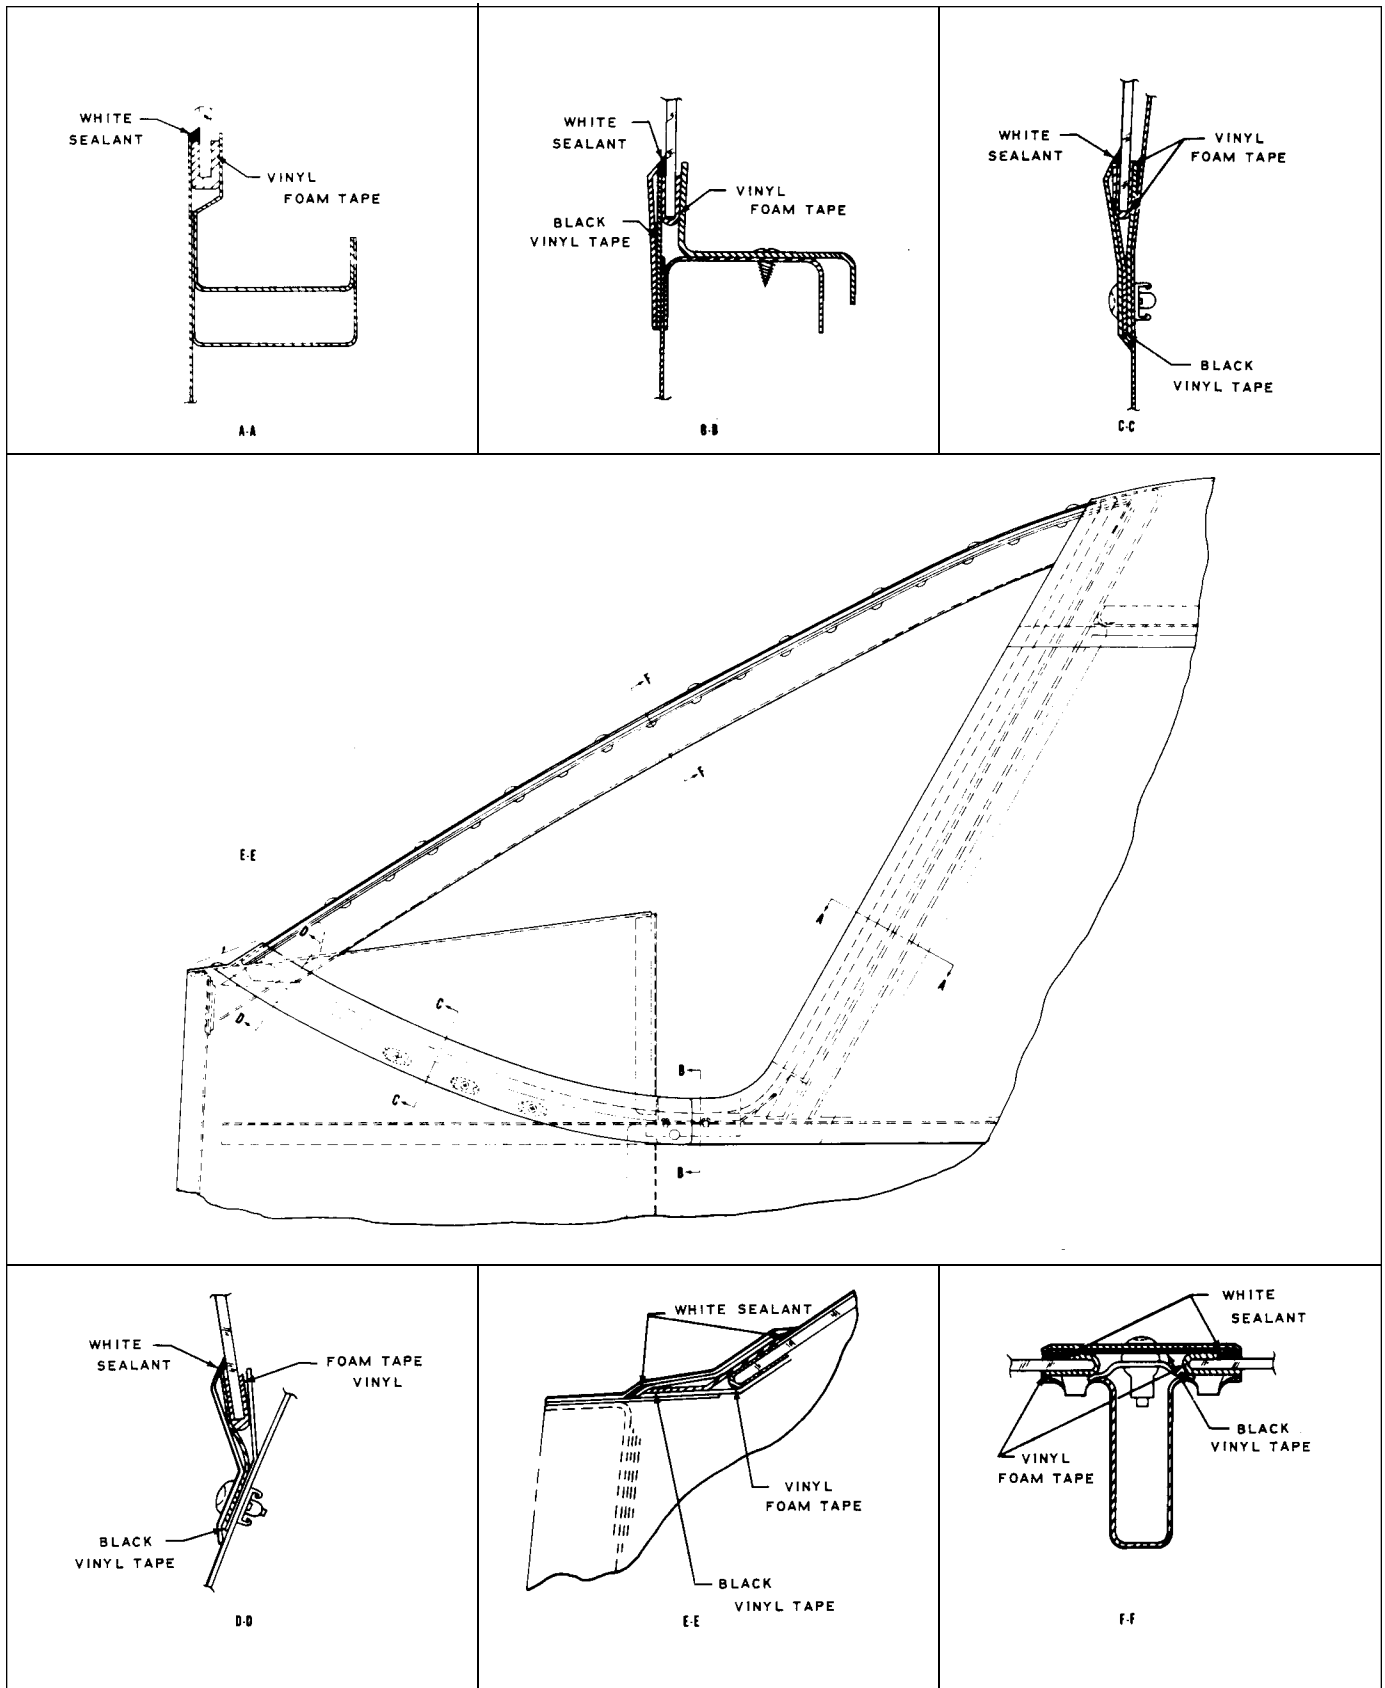

Figure 4-5. Windshield Installation (Typical)
**4-32. INSTALLATION OF WINDSHIELD. (Refer to Figure 4-5.)**